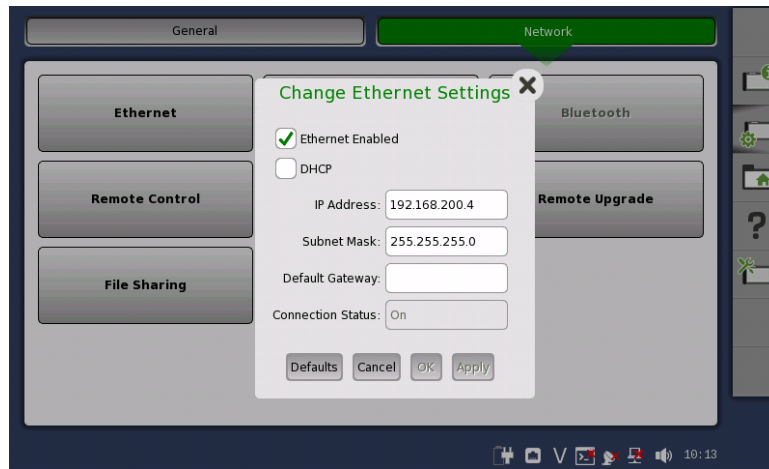
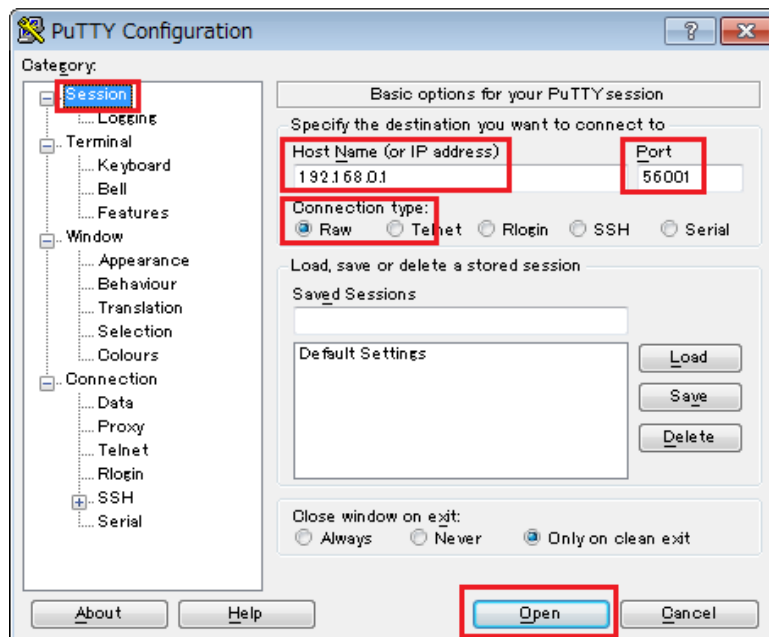

Figure 1.13: IP Address on the instrument
Figure 1.14: Specify the destination and **Open** the connection in PuTTY
4. In the instrument GUI, find the instrument's **IP Address** information, see Figure 1.13. Then type it in PuTTY, see Figure 1.14.
5. In PuTTY, type 56001 in the **Port** field, select the **Raw** radio button in the **Connection type** field, and click the **Open** button. see Figure 1.14.